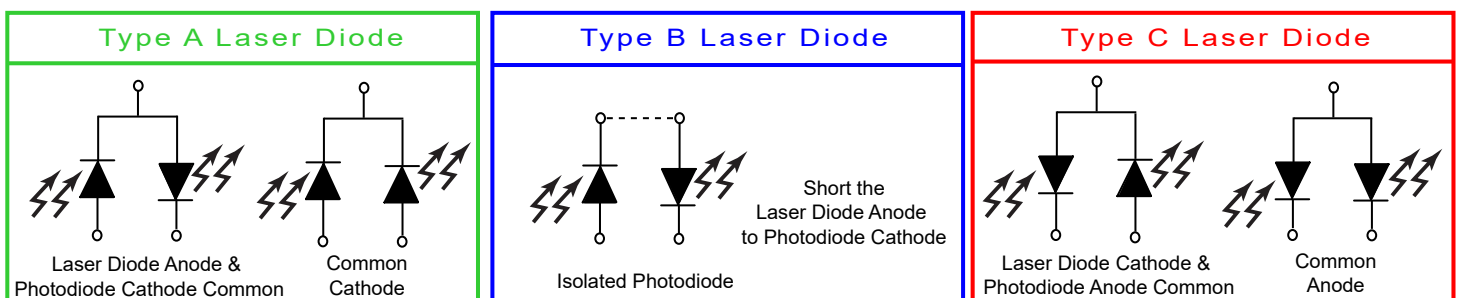

Figure 37. Laser Type Diagrams
4. Press the **Laser Type** value to toggle between A/B and C type lasers (see **Figure 37** for elaboration on laser types). This control cannot be modified if output current to the laser is enabled.